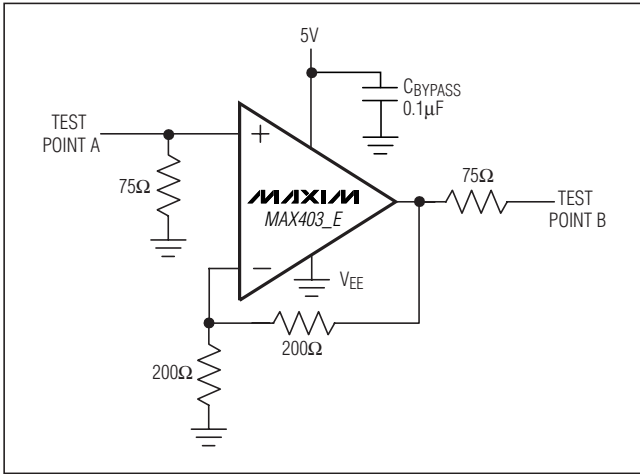

Figure 7. ESD Test Circuit
**Note 2:** ESD protection is specified for test point A and test point B only (Figure 7).
As with all Maxim devices, ESD protection structures are incorporated on all pins to protect against ESD encountered during handling and assembly. Input and output pins of the MAX4030E/MAX4031E have extra protection against static electricity. Maxim's engineers have developed state-of-the-art structures enabling these pins to withstand ESD up to  $\pm 15\text{kV}$  without damage when placed in the test circuit (Figure 7). The MAX4030E/MAX4031E are characterized for protection to the following limits: